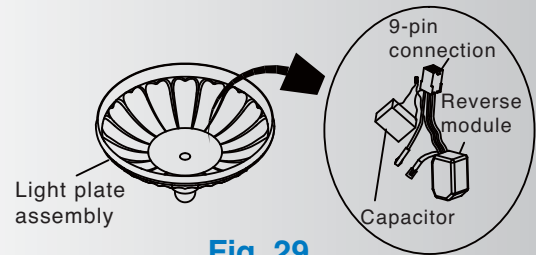

Fig. 29
Step 1. Remove the Wiring Harness from the Ceiling Fan “Switch Housing”. This includes the Reverse Module, Capacitor and 9 Pin Connector. Refer to Fig. 29.